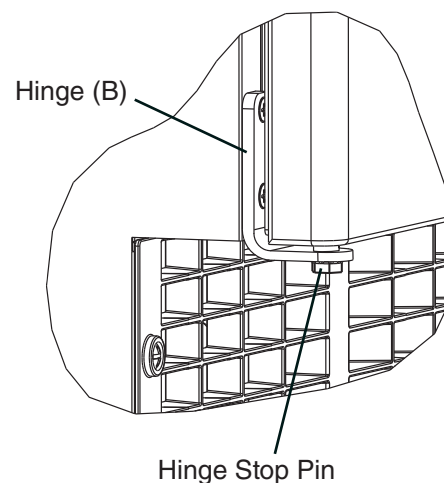

Fig. 7
- 7) Attach the door to hinge (A), then continue to maintain a hold on the door. Screw the hinge stop pin into hinge (B) until it is tight. See Fig. 7.